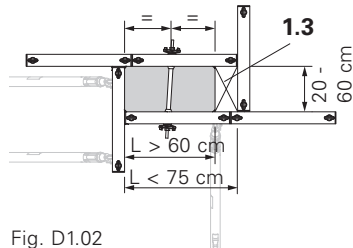

Fig. D1.02
- The following cross-sections are examples. (Fig. D1.02 + D1.06b)
(Fig. D1.02 + D1.03)